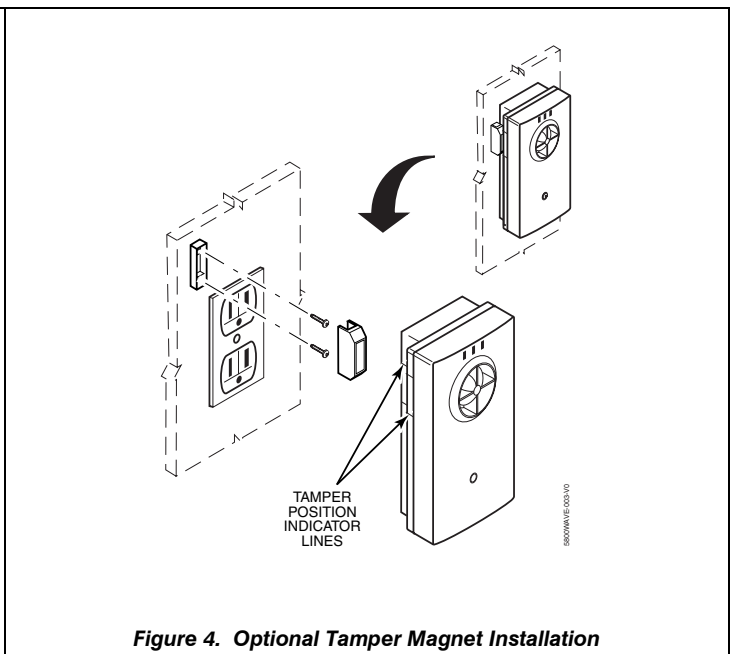

Figure 4. Optional Tamper Magnet Installation
- b. To transmit the serial number, plug the 5800WAVE into an AC receptacle. Within 15 seconds, place the tamper magnet next to the tamper position-indicator lines on the case (Figure 4) and wait until the yellow LED turns off, and then remove the magnet to cause a transmission.
3. Mount the magnet (using the screws supplied) to the wall, adjacent to the case, between the tamper position indicator lines as shown in Figure 4.